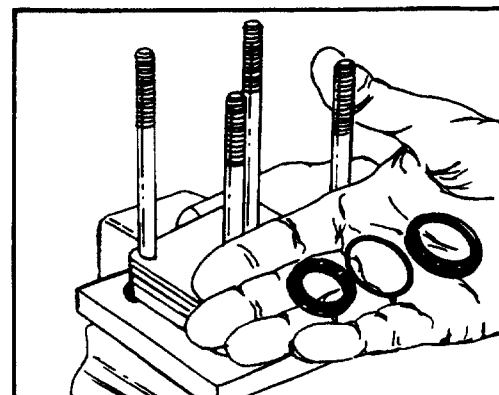

FIGURE 53.
9. Assemble seal back-up ring (30) and face seal (29) onto the seal spacer (31). See figure 53.